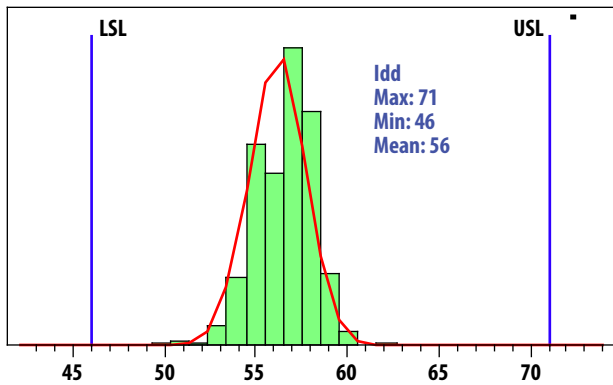

Figure 1. Idd @ 2.5GHz, 5V, 56mA Mean = 56
RF performance at T_A = 25°C, V_{dd} = 5V, R_{bias} = 3.6 kOhm, 2.5 GHz, measured on demo board in Figure 1 with component listed in Table 1 for 2.5 GHz matching.
1. Measurements at 2.5 GHz obtained using demo board described in Figure 1.